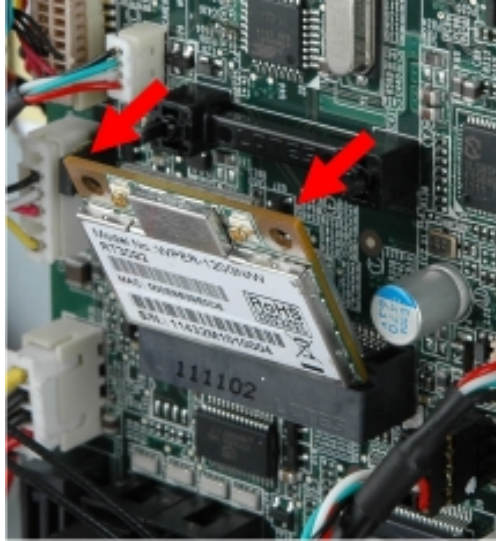

Figure 4-5: Removing the WLAN card
- Step 7:** Grasp the WLAN card by the edges and carefully pull it out of the socket (Figure 4-5).